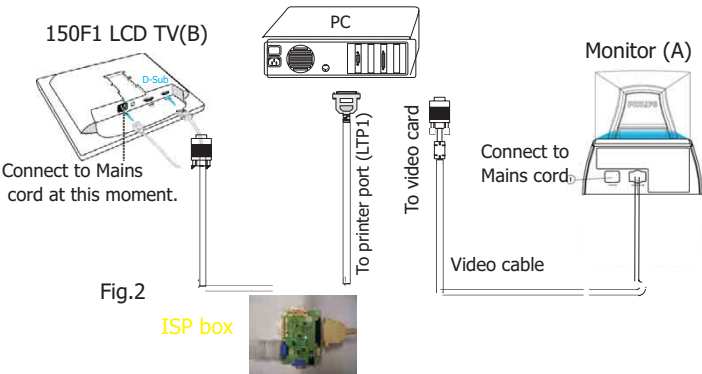

Fig.2
- 5. Connect DDC2BI_ISP TOOL and Mains cord to Monitor as shown in Fig. 2.